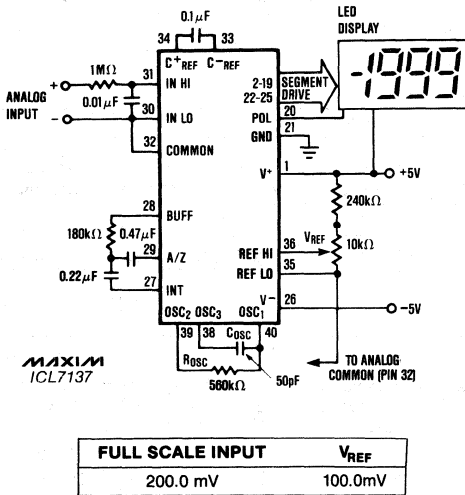

Figure 1. Maxim ICL7137 Typical Operating Circuit Clock Frequency 16kHz (1 reading/sec)
Note 3: Unless otherwise noted, specifications apply at $T_A = 25^\circ C$, $f_{CLOCK} = 16kHz$ and are tested in the circuit of Figure 1.
($V^+ = 9V$; $T_A = 25^\circ C$; $f_{CLOCK} = 16kHz$; test circuit - Figure 1 unless noted.)
- Note 9:** Test condition is V_{IN} applied between the "Analog Input" pins (Figure 1).
- Note 10:** 1M Ω resistor is removed in Figures 1 and 2.